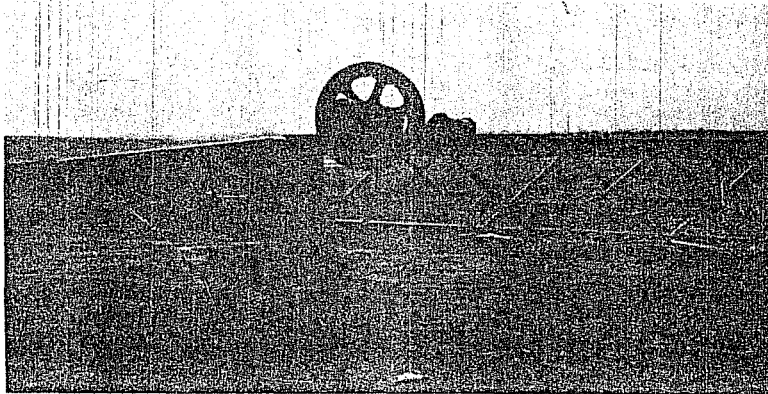

Figure 6.2-4
- a. Leave the deflection sheave on the lower section (Figure 6.2-4) and the sheave and strand links on the mast head.